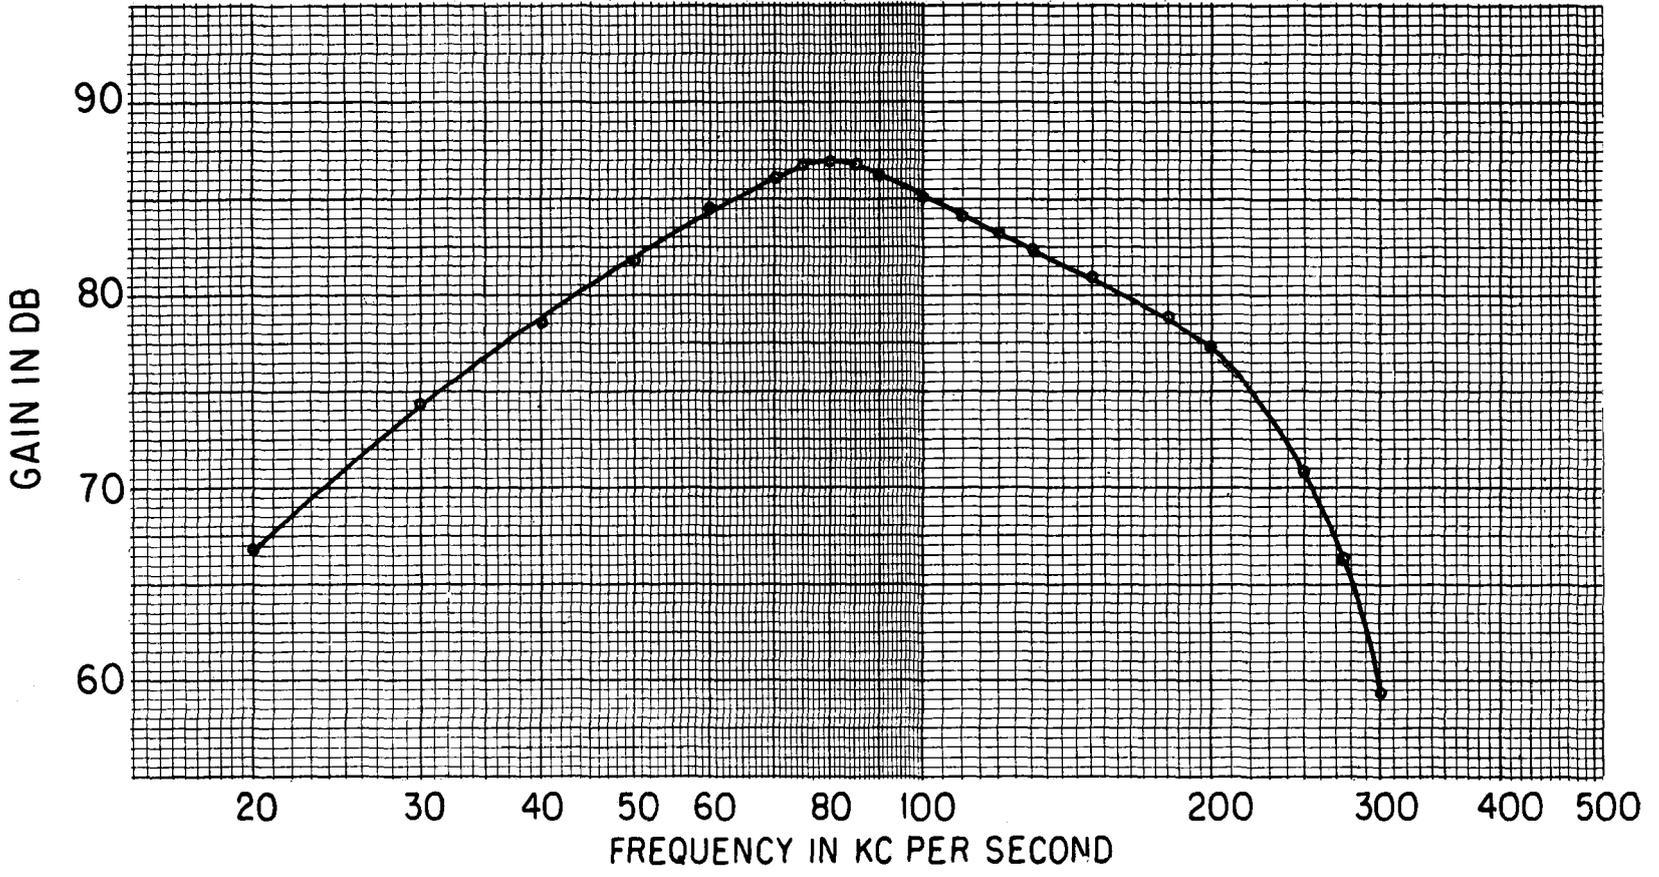

Fig. 1 — Nonregenerative Gain J98703L & LA; J98706 CA, DA, C & D;
4.02 Figs. 1 through 6 show typical nonregenerative gain characteristics of the units for which this test is made. These curves can be used to supplement the three frequency tests made in the point sections.